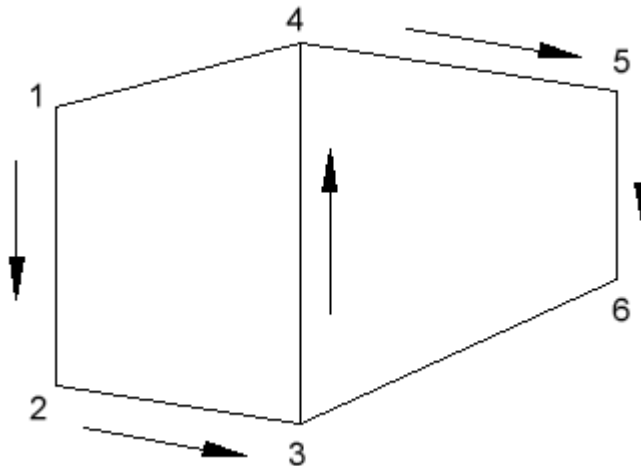

Figure 2.1.1
**Step 2:** Use the **3D Face** command to draw a similar shape to **Figure 2.1.1**.
**Note:** Pick points on the screen, following the sequence in **Figure 2.1.1** to create a similar shape.